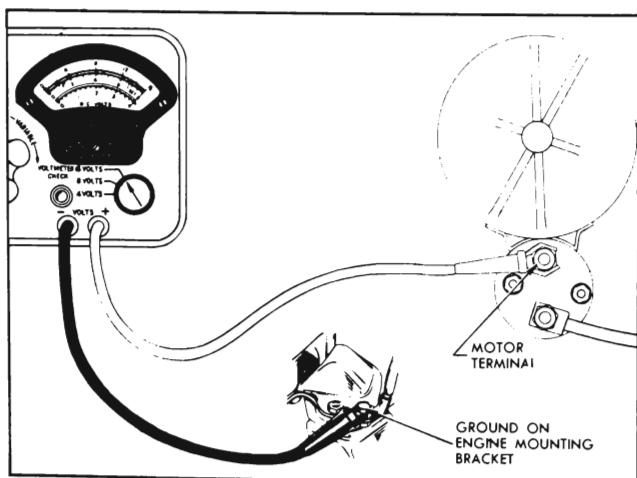

Figure 10-26—Cranking Voltage Test Connections
3. Connect voltmeter positive (+) lead to the motor terminal on solenoid switch; connect voltmeter negative (-) lead to ground on engine. See Figure 10-26.